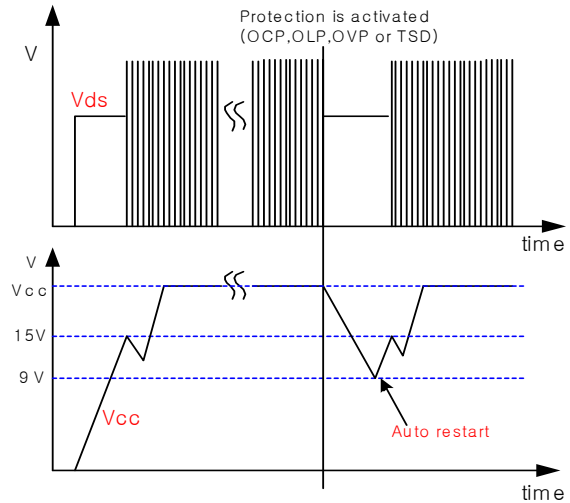

Figure 3. Auto restart operation after protection
**3. Protection function :** FS8S0965RCB has 4 self protective functions such as abnormal over current protection (AOCP), over load protection (OLP), over voltage protection (OVP) and thermal shutdown (TSD). Because these protection circuits are fully integrated into the IC without external components, the reliability can be improved without cost increase. In the event of these fault conditions, the FPS enters into auto-restart operation. Once the fault condition occurs, switching operation is terminated and MOSFET remains off, which forces  $V_{cc}$  to be reduced. When  $V_{cc}$  reaches 9V, the protection is reset and the supply current reduces to  $80\ uA$ . Then,  $V_{cc}$  begin to increase with the current provided through the start-up resistor. When  $V_{cc}$  reaches 15V, the FPS resumes its normal operation if the fault condition is removed. In this manner, the auto-restart alternately enables and disables the switching of the power MOSFET until the fault condition is eliminated as illustrated in figure 3.